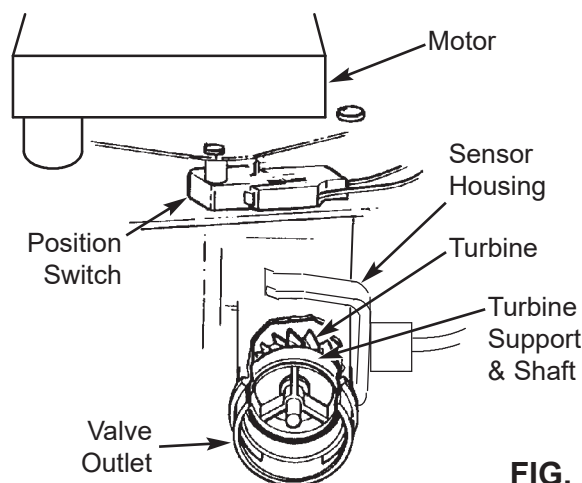

FIG. 97
6. If the display reading does not change with the faucet open, pull the wire harness from the valve outlet port (See Figure 97).